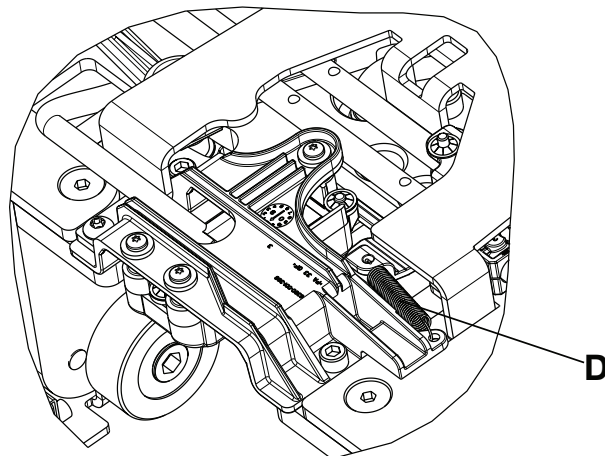

Figure 29 – Return spring location
5. Remove and save the return spring (D) (Figure 29).